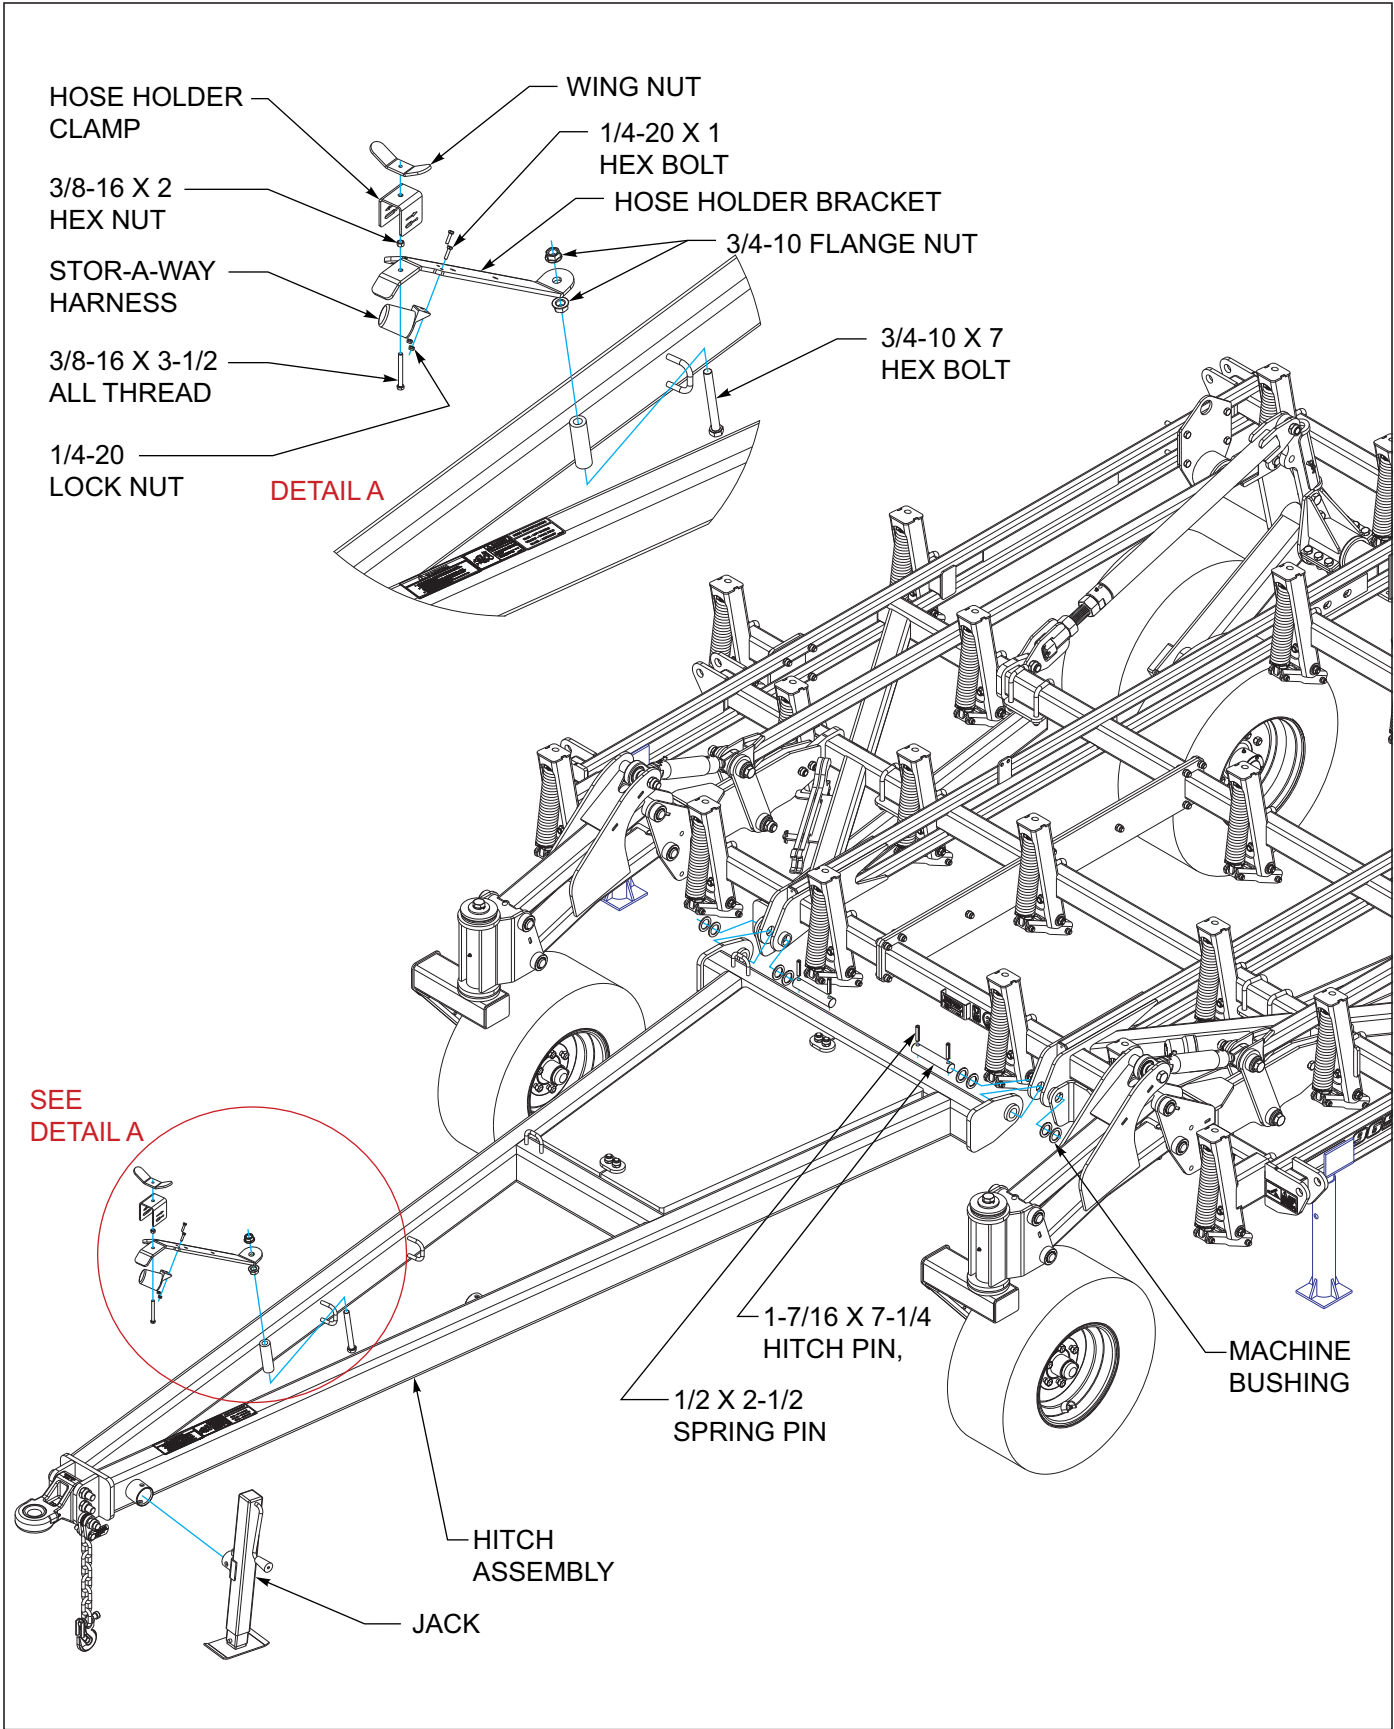

Figure 3-4: Hitch Assembly
1. Connect hitch assembly to the front of the center frame using 1-7/16 x 7-1/4 hitch pin, machine busings, and 1/2 x 2-1/2 slotted spring pin See Figure 3-4.